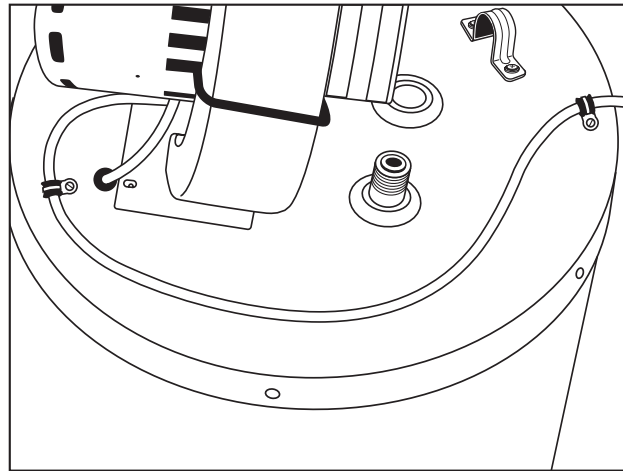

FIGURE 3.
6. Locate the two loop clamps with rubber cushion. Mount one loop clamp on the top cover near the blower and the other one on the top cover near the back of the heater using screws supplied. Remove the rubber hose attached to the drain port near the bottom of blower housing and cut it to 38 inches. Replace one end of the 38 inch rubber hose to the drain port, and run the other end through the two loop clamps. Make sure no kink or twist exists along the whole length of the rubber hose. Refer to Figure 3.
7. Locate the metal clamp and mount it on top cover near the back of heater using two screws supplied. Refer to Figure 3.